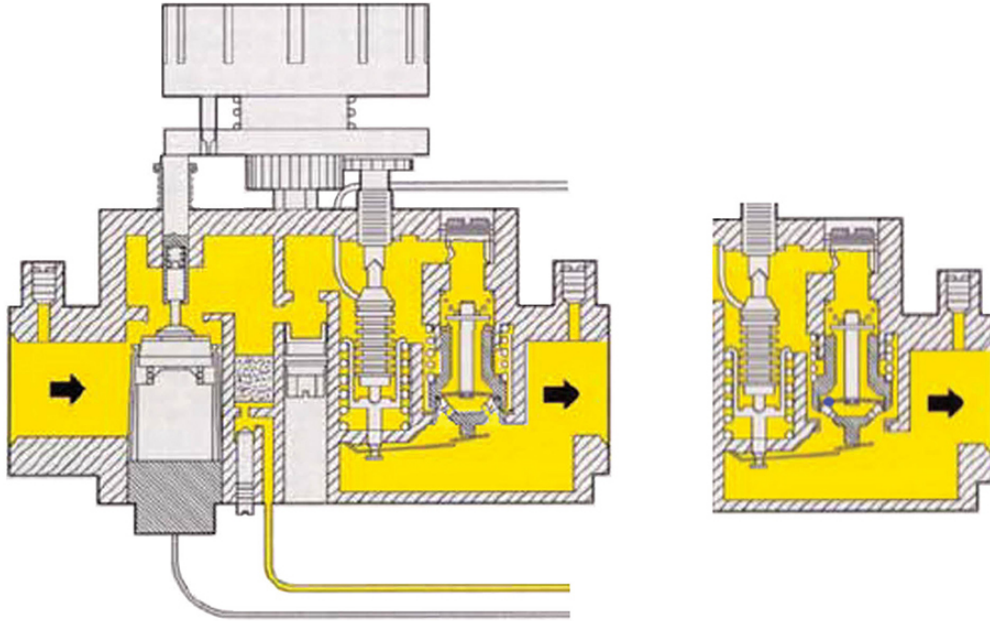

Figure 84. Hydraulic Modulating valve, left low fire, right throttling
You can see in Figure 84 (left) the temperature has dropped below the temperature setpoint and the inner snap acting valve seat is in the open position. This inner seat supplies the minimum rate of gas flow, if the heating requirement is satisfied the temperature will rise and the valve will snap shut.
- Figure 84. “Hydraulic Modulating valve, left low fire, right throttling” from SIT is used for educational purposes under the basis of fair dealing.